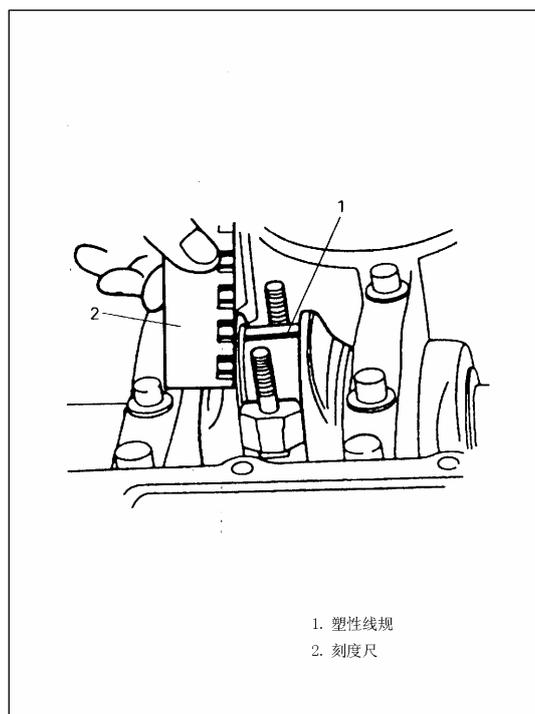

Fig 4-182
E) Disassemble connecting rod cap, measure the maximum width of plastic gauge (clearance) with plastic gauge ruler. fig.4-182